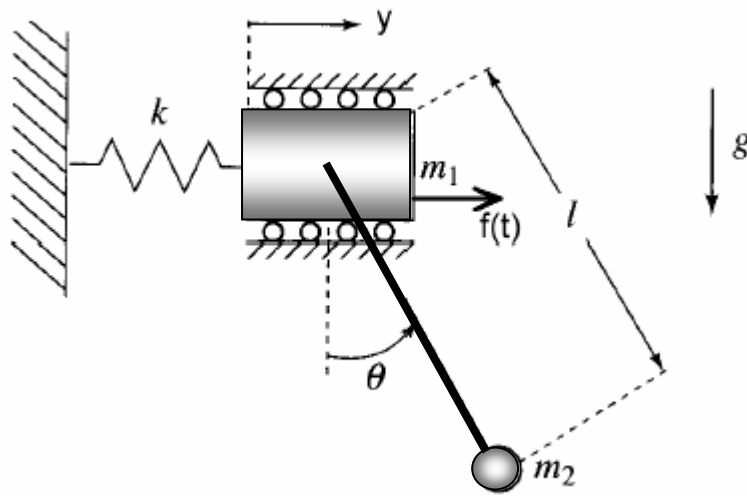

Figure 1
- Q2. Consider the system shown in Figure 1 where $m_1 = 30$ kg, $m_2 = 2$ kg, $k = 15$ N/m, $l = 2$ m, $f(t) = 10 \sin(5t)$ N.